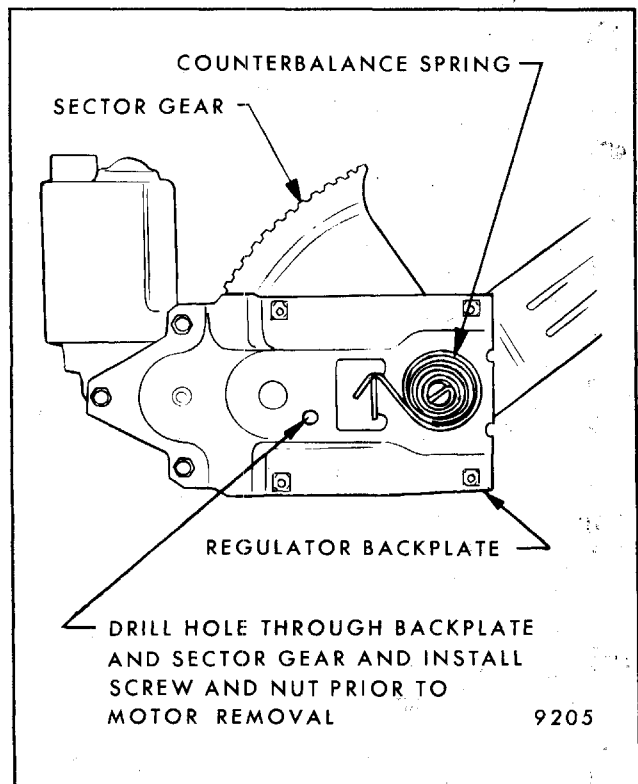

Fig. 5-65-Front Door Window Regulator Motor Removal
2. On "X" style rear doors with no counterbalance spring (Fig. 5-65), tape window to frame with pieces of cloth-backed body tape to prevent glass from dropping when regulator motor is removed.
3. Drill a hole through the regulator sector gear and back plate (Fig. 5-65) and install a screw and nut to lock sector gear in position. **DO NOT** drill hole closer than 1/2" to edge of sector gear or back plate.